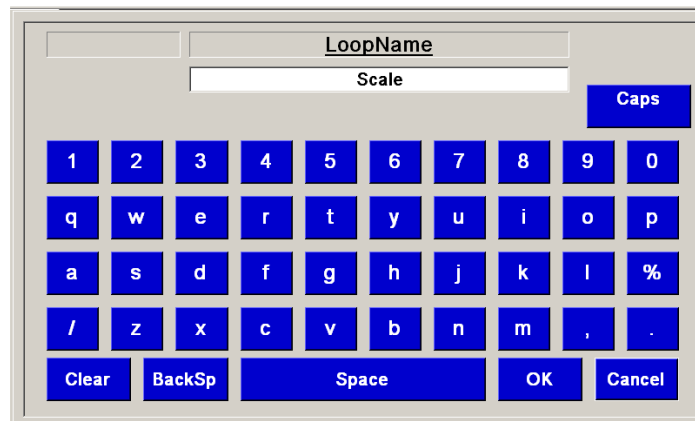

Fig. 17: LoopName Touchpad
2. Press inside the Name edit box and use the LoopName Touchpad (see Fig. 17 on p. 36) to name the loop.